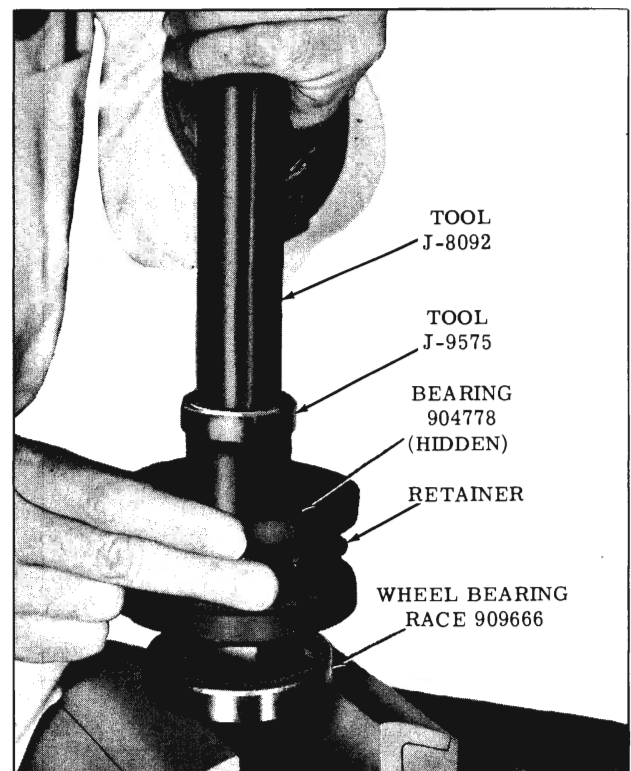

Fig. 6-145 Removing Bearing From Insulator
6. Bend bearing retainer tabs out to permit removal of bearing. Position wheel bearing race (Part No. 909666), small diameter up, on open jaws of vice as shown in Fig. 6-145. This will back up the retaining tab side of the retainer while bearing is being removed. Drive out bearing with a hammer and Tools J-9575 and J-8092.